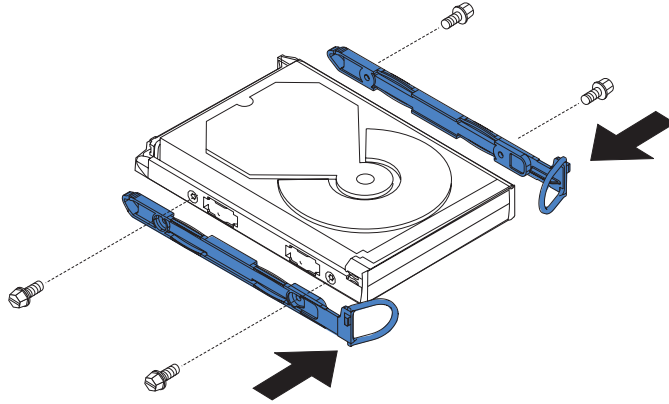

Figure 82. Attaching the rails to the disk drive
8. If you are exchanging the disk drive for another, see Figure 82 on page 252. Find the rails and screws that are shipped with the new disk drive. Attach the rails to the disk drive.